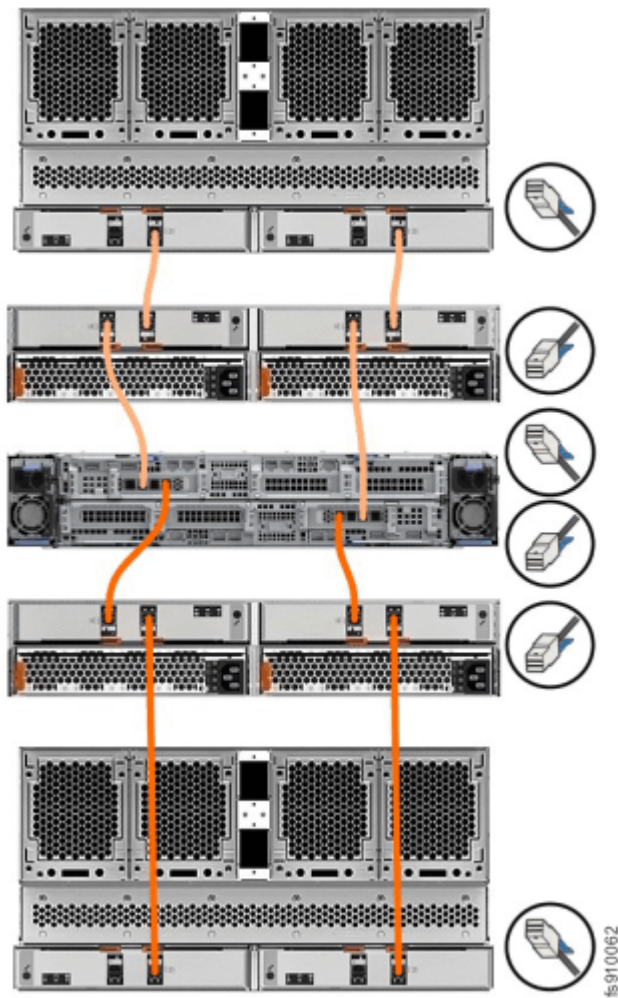

Figure 140. Connecting the SAS cables
Note: When connecting SAS cables between enclosures, you must follow a list of guidelines to ensure that your configuration is valid. Do not begin connecting the cables until you have read Figure 140 on page 125.
1. Using the supplied SAS cables, connect the control enclosure to the expansion enclosure at rack position 1, as shown in Figure 140 on page 125.
2. To add a second expansion enclosure chain to the control enclosure, use the supplied SAS cables to connect the control enclosure to the expansion enclosure at rack position 2. Refer to Figure 140 on page 125 for an example.
3. If additional expansion enclosures are installed, connect each one to the previous expansion enclosure in a chain. Use two Mini SAS HD to Mini SAS HD cables, as shown in Figure 140 on page 125.